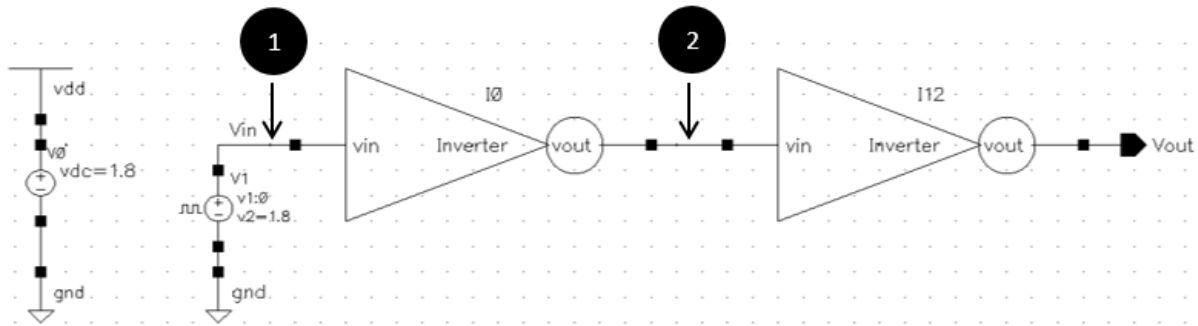

Figure 6.2: Inverter Test Schematic
Build the test schematic based on Fig.6.2 using the specification given in Table.1.1.
- Go to schematic and select the output terminal of the 1st Inverter (Marked as **2** in Fig.6.2) to plot.